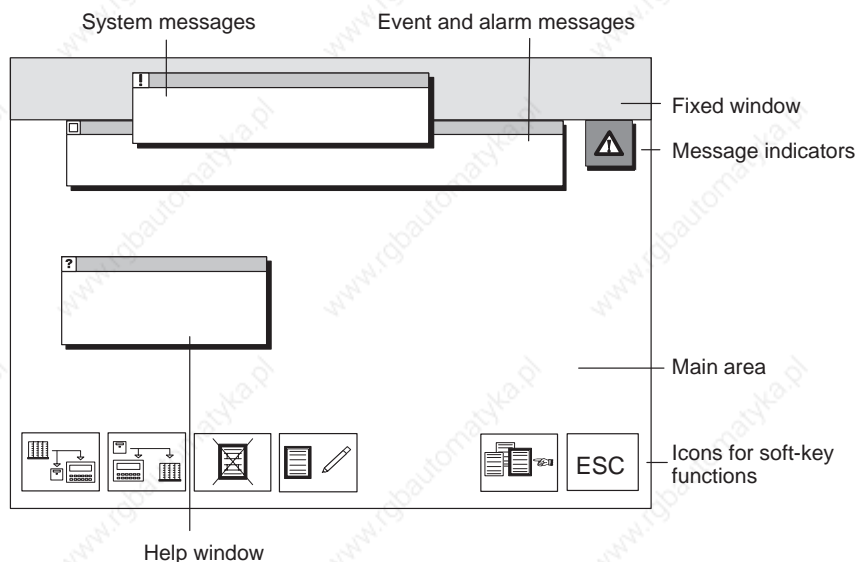

Figure 3-1 Screen partitioning on the OP (example OP37)
**Screen partitioning** A screen occupies the entire display. An example of screen partitioning is illustrated in Figure 3-1.